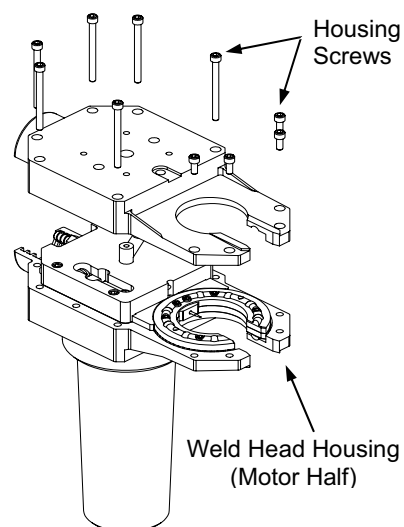

Figure 32 Removing the Locking Ring Half of the Weld Head Housing
5. Remove the weld head housing screws from the housing. Using a slight rocking motion, carefully separate the locking ring half of the weld head housing from the motor half. See Figure 32.
6. Carefully separate the weld head housing halves so that internal components are not damaged. See Figure 32.